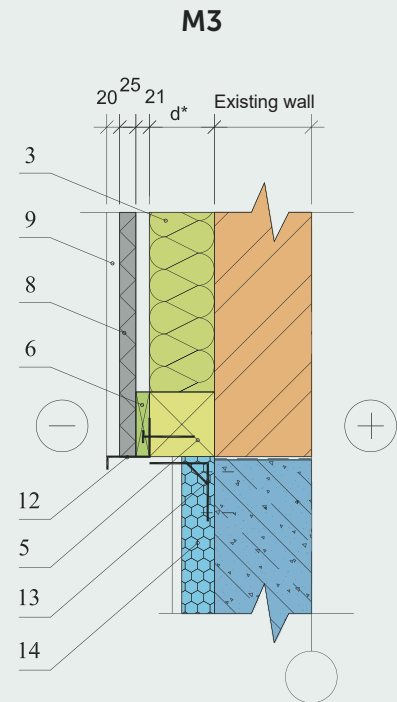

Fig. 3.
| <p>① Plinth wall of the building</p> <p>② Existing external wall</p> <p>③ Thermal insulation – mineral wool or eco wool in a timber frame</p> <p>④ Angle</p> <p>⑤ Squared timber of plinth of the thermal insulation frame, treated with an antiseptic (Fig. 3). Sizes according to the frame design, minimum size – approx. 60*100 (h)</p> <p>⑥ Spaced cladding, 21*100 mm, s=605 mm</p> <p>⑦ Frame structure of the thermal insulation frame.</p> <p>⑧ CEWOOD panel, 25 mm.</p> <p>⑨ Plaster A4</p> <p>9.1. Cement or cement-lime mortar (for example Sakret CLP+, ZM or Pmsuper) layers, 3-4 mm or 5-7 kg/m²</p> <p>9.2. Undercoat (for example Sakret CLP+), 15-20 mm</p> <p>9.3. Glass fibre mesh SSA 1363-4) in adhesive mortar (for example Sakret BAK)-4 kg/m²</p> <p>9.4. Decorative trim, paint coat</p> <p>⑩ Plaster A3</p> <p>10.1. Glass fibre mesh in adhesive mortar 5-6 kg/m²</p> <p>10.2. Decorative plaster, paint coat</p> | <p>⑪ Galvanised screw 4,5*45 with a widened head for fastening wood wool panels</p> <p>⑫ Sheet metal air-hole b=55 mm (plinth profile)</p> <p>⑬ Bracket</p> <p>⑭ Thermal insulation XPS 50 mm</p> <p>⑮ Sealing</p> <p>⑯ Wood-fibre thermal insulation</p> <p>⑰ Vapour barrier</p> <p>⑱ Board, 21*100, L=900 mm</p> <p>⑲ Adhesive mortar</p> <p>a distance (step) between frame props. According to the requirements for timber frame structure, as well as depending on dimensions of panels' mineral wool. Typically ≤ 1 m.</p> <p>e distance between fixtures – wood screws, nails ≤ 600 mm</p> <p>d thickness of thermal insulation layer. According to LBN 002-15. Approximately 100-120 mm.</p> |